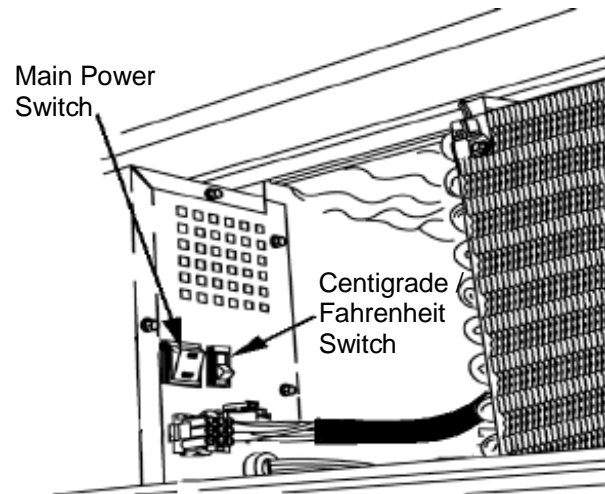

Figure 1
2. Turn the main power switch in the machine compartment to the off position. (See figure 1)